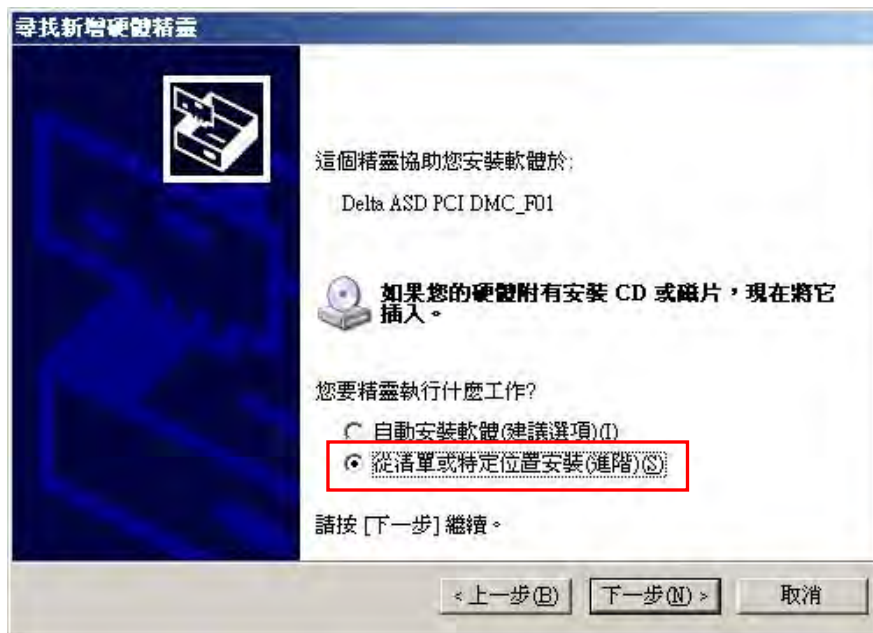

Figure 2.21
As shown in Figure 2.21, the wizard will indicate that it will now install the driver for "Delta ASD PCI DMC\_F01". Please select "Install from a list or specific location (Advanced) (S)" then click on "Next" to continue.